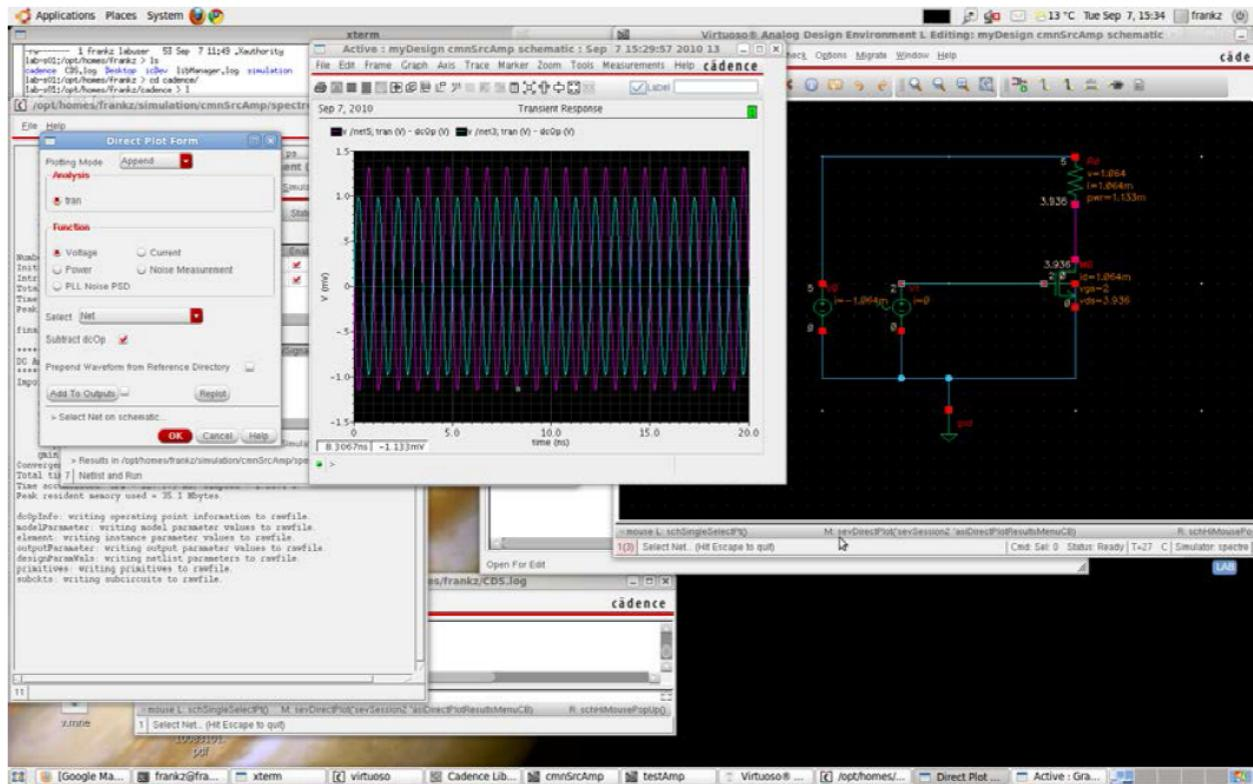

Figure 12: Plotting different network parameters
- Discuss with your demonstrator on how to plot the graphs shown in Figure 12.